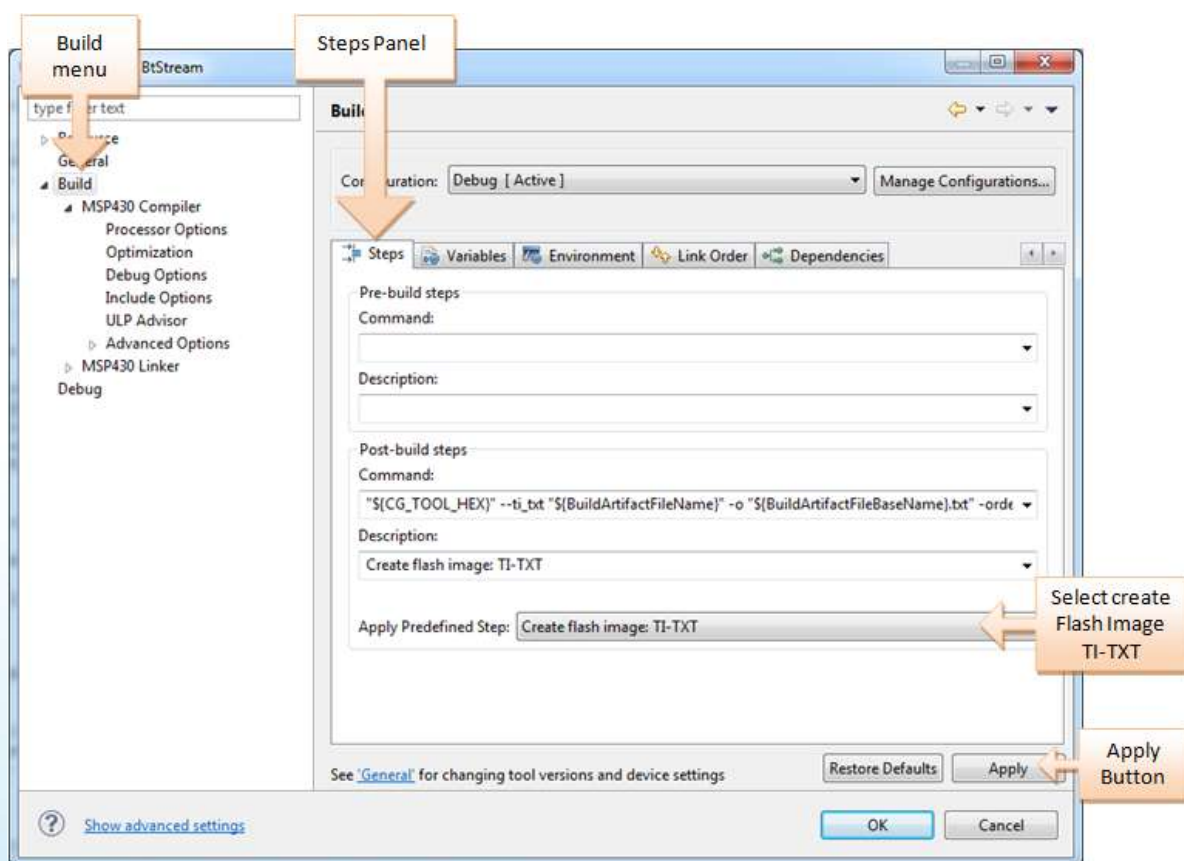

Figure 5-3 Creating an output TXT file using Code Composer for custom firmware programming with the Consensys application.
2. As shown in Figure 5-3, select the "Build" menu in the left panel and then select the "Steps" panel on the right.